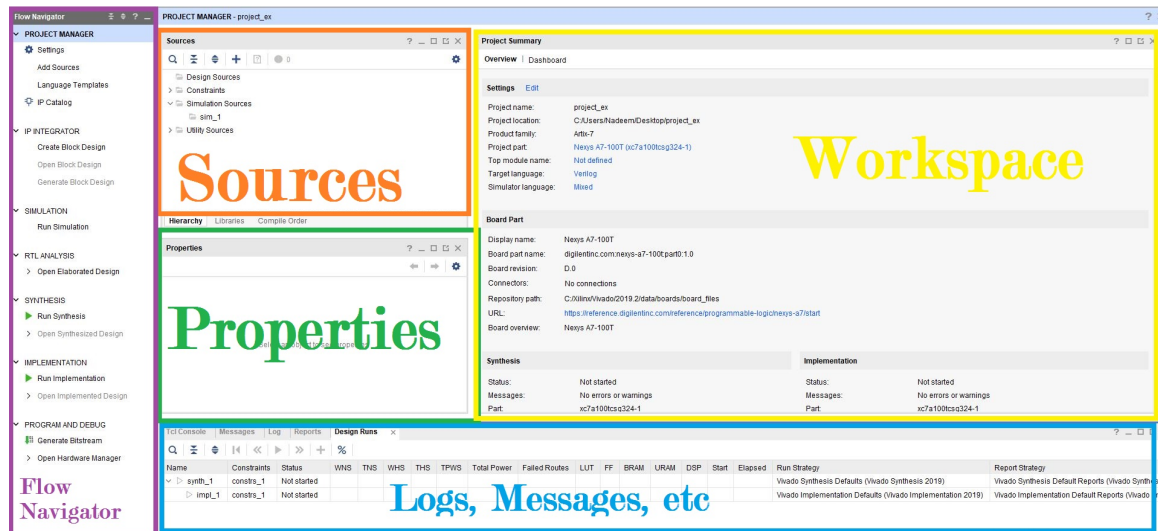

FIGURE 1.7: Project Manager
6. In the *Project Manager*, under the *Sources* tab, right click on Design Sources and choose **Add Sources**. (Figure 1.7)